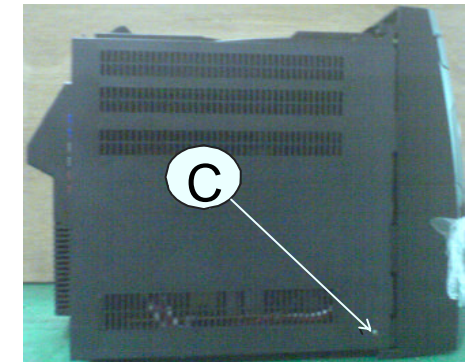

Figure4
- 1 screws "C" each on the left& right sides as shown in figure 4